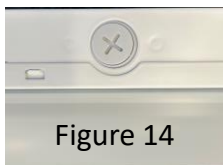

Figure 14
- Locate the sensor base on the side of the fixture body (fig. 14 (and refer to the Dimensions section of these instructions)) and unscrew the cover (fig. 15).